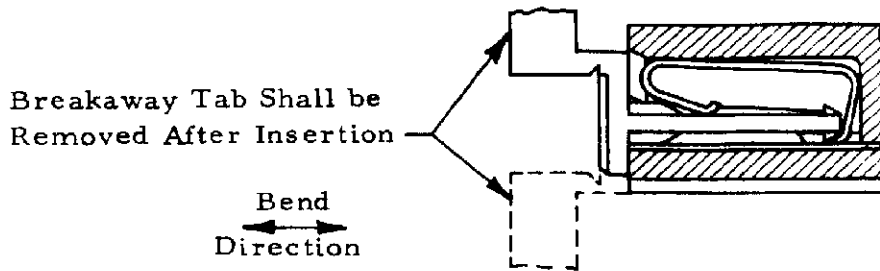

Figure 10
- B. Insert polarizing plug into connector cavity until back of front plate is against the housing face as indicated in Figure 10.
- C. Remove breakaway tab by bending in either direction as shown in Figure 10. Polarizing plug remains in place by the contact normal force.